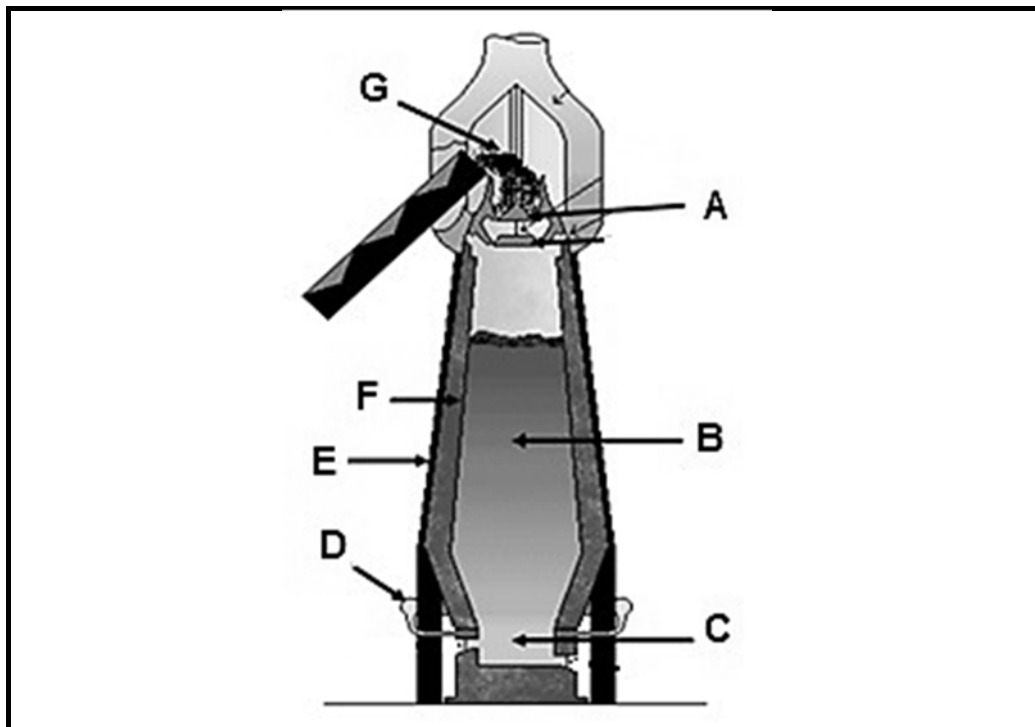

FIGURE 5.5
5.5 FIGURE 5.5 below shows the cross-sectional view of a furnace.
- 5.5.1 Identify the furnace in FIGURE 5.5 above. (1)